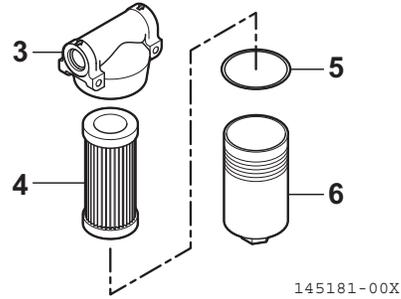

Fig. 8-74
5. Even after the case (Fig. 8-74, 6) is removed, the element (Fig. 8-74, 4) remains in the head (Fig. 8-74, 3). Pull the element (Fig. 8-74, 4) out of the head (Fig. 8-74, 3) to remove.
6. Wash the case (Fig. 8-74, 6).
7. Insert a new element into the head (Fig. 8-74, 3).
8. Replace the O-ring (Fig. 8-74, 5) attached to the case (Fig. 8-74, 6) with a new one.
9. Screw the case (Fig. 8-74, 6) into the head (Fig. 8-74, 3).